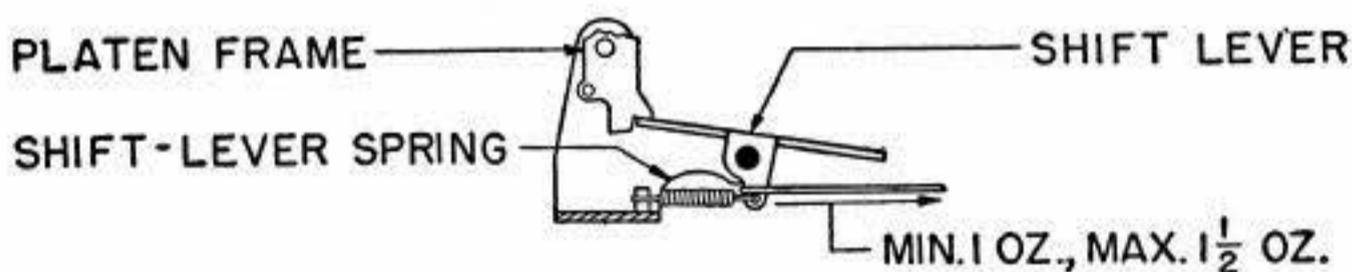

Fig. 34
2.53 **Shift-Lever Spring:** It should require a pull as indicated in Fig. 34 to just start the lever moving with the platen frame held clear of the lever. **Fig. 34**